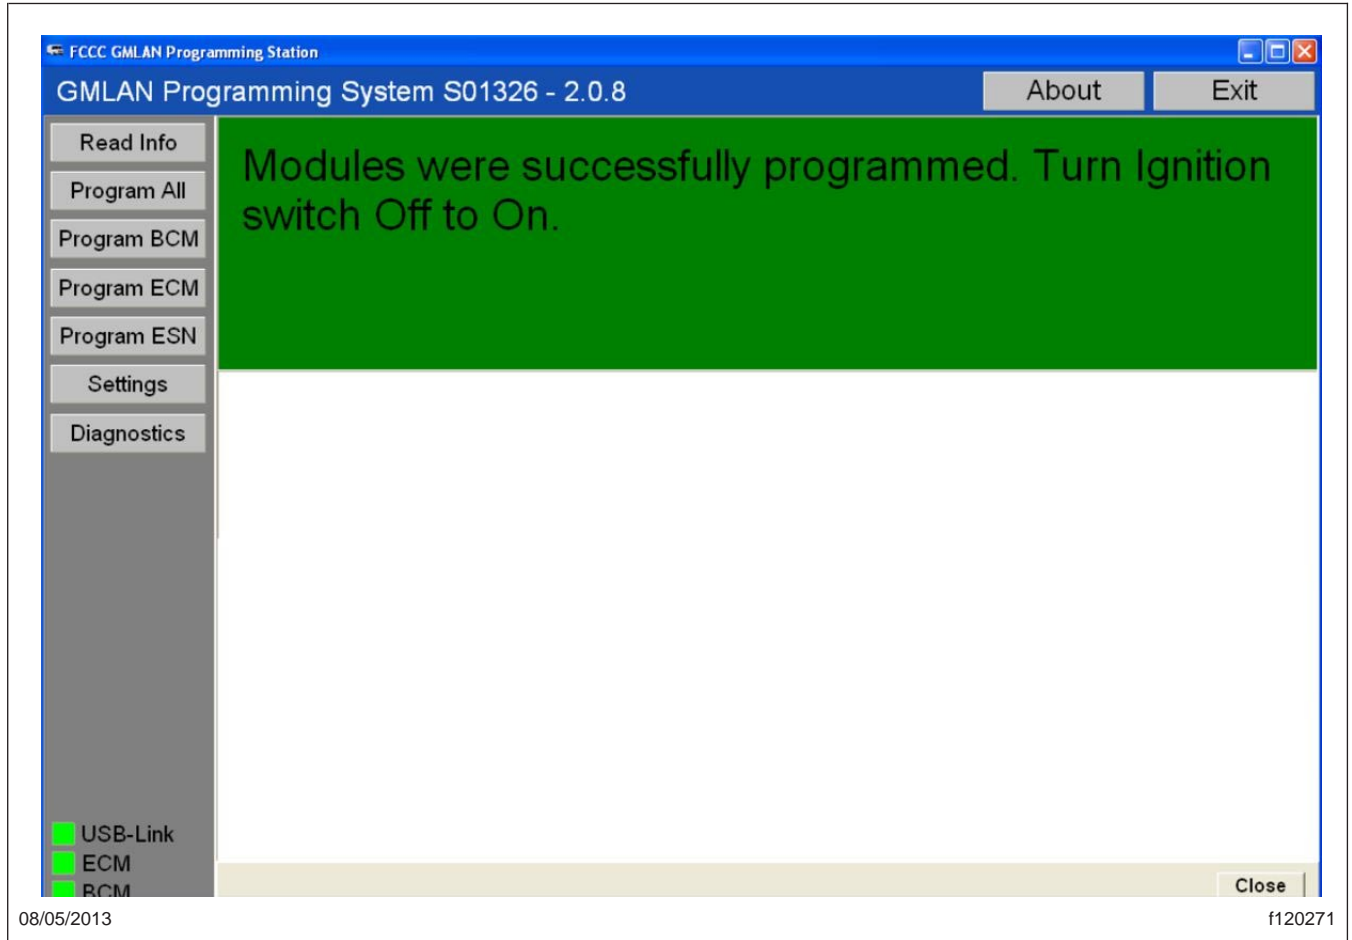

Fig. 6, Modules Programmed Confirmation Screen
6. Once the transfer is complete, a confirmation screen will appear. See Fig. 6. Turn the ignition OFF, then turn the ignition ON.